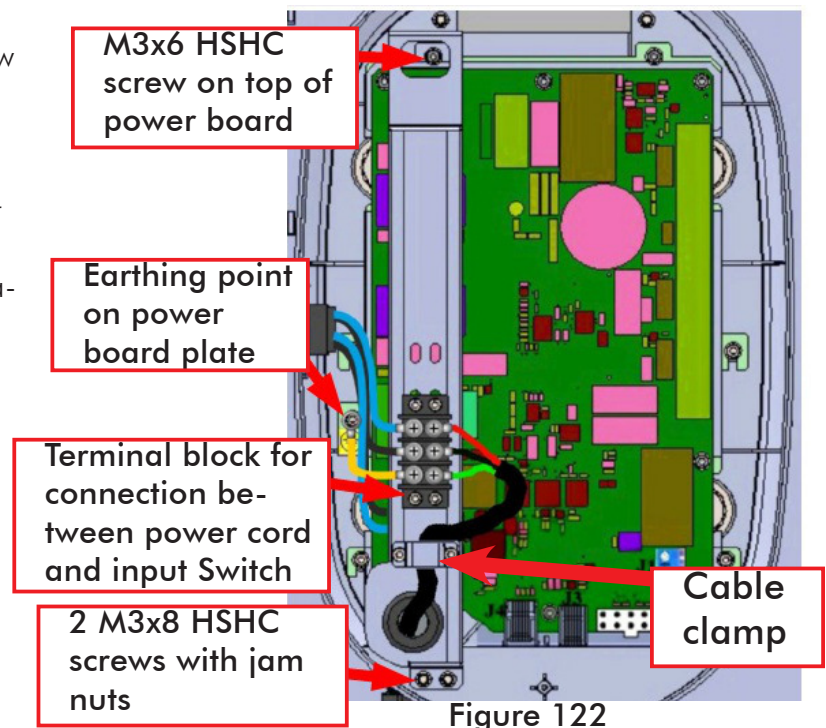

Figure 122
- Disconnect the “Live, Neutral and GND wires(Ring terminals) of power cord connected to the terminal block using screw driver as shown in Figure 122 and remove the clamp which is used to hold the power cord at bottom to the terminal block by removing 2 M3X6 HSHC screws using 2.5 mm allen key as shown in Figure 122 .
- Remove the power board clamp from the base unit by removing 1 M3X6 HSHC Screw on top side of the power board using 2.5 mm allen key and 2 M3X8 HSHC screws, plain washers and Jam nuts (screws will be inserted from rear side and nut with washer to be fixed from front side) using 2.5 mm allen key and 5.5 mm nut driver at the locations shown in Figure 122 .
- Route the power cord cable through the hole provided in the base unit clamp as shown in Figure 122 . Connect the "Line, Neutral and earthing wires (Ring terminals) of the power cord on the terminal block using cross recessed screw driver as shown in Figure 122 . Fix the clamp used for holding the power cord at the bottom side of the terminal block as shown in Figure 122 .